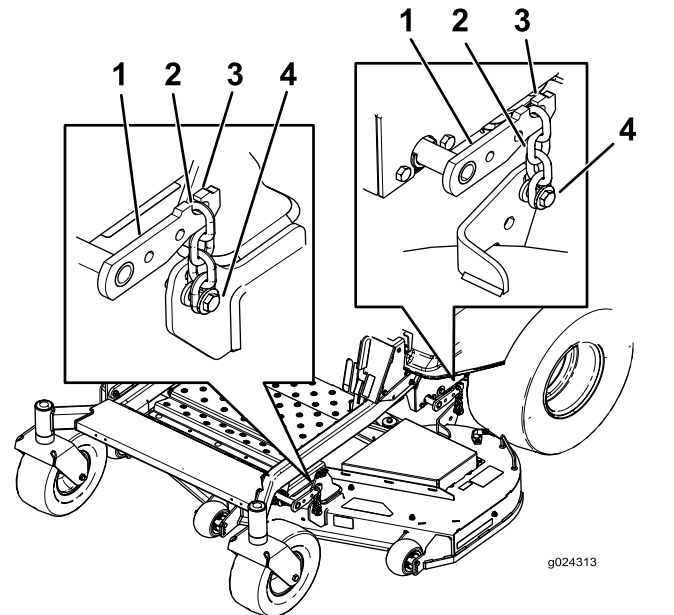

Figure 68
3. Remove the chains from the hooks on the deck-lift arms (Figure 68).
6. Lift the rear of the mower deck and attach the chains to the rear lift arms (Figure 68).
7. Attach the front chains to the front lift arms (Figure 68).